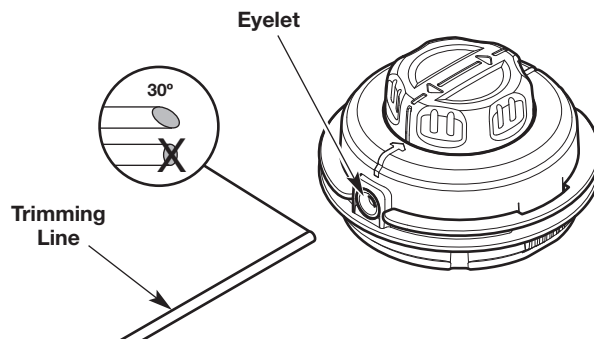
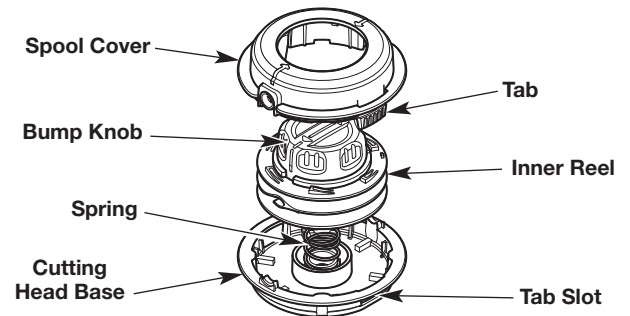

Fig. 25
Fig. 28
- Cut two 10-foot (3.0 m) lengths of new trimming line. Cut one end of each line at a 30 degree angle (Fig. 25).
- Insert one of the lines into an eyelet on the cutting head (Fig. 25). Use the angled end and push the line in about 3 inches (7.5 cm). Repeat this process with the other line and remaining eyelet.
- c. While holding the screwdriver in place, gently twist the screwdriver to unlock the tab from the tab slot (Fig. 28).
- d. Remove the spool cover (Fig. 28). **DO NOT** remove the spring from the cutting head base (Fig. 28).
- e. Push the bump knob through the spool cover. (Fig. 28). If the eyelets come off, reinsert the eyelets on the spool cover (Fig. 25).
- NOTE: DO NOT** separate the bump knob from the inner reel (Fig. 28).
- g. Use a clean cloth to clean the inner reel, cutting head base and spool cover (Fig. 28).
- h. Insert the bump knob and inner reel into the spool cover (Fig. 28).
- i. Align the tabs on the spool cover with the tab slots on the cutting head base (Fig. 28). Push the spool cover onto the cutting head base until the tabs securely snap into place.